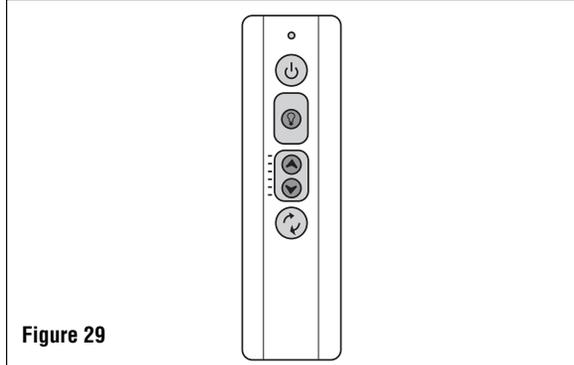

Figure 29
Your remote control has code switches which must be set in one of 32 possible code combinations (Figure 29). The five levers (numbered 1, 2, 3, 4, and 5) on the switches are factory-set in the ON (up) position. Change the switch settings as follows (Figure 29):
4. To vary the intensity of the light, hold the (⌵) button down until the desired light intensity is reached, then release the button. The remote dimmer code must be set to "D" to use the dimming features (Figure 29).